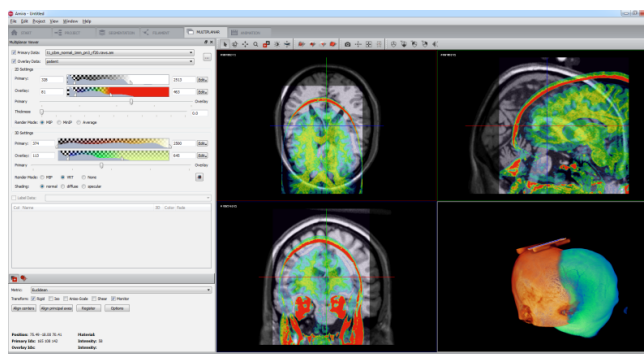

Figure 15.2: Screen shot of the Multiplanar Viewer showing reference and patient data in image fusion.
- Set up the reference image as *Primary Data* and the patient image as *Overlay Data*. In the *2D Settings* panel use the *grayScale* colormap for the primary and *physics.icol* for the secondary data, in the *3D Settings* panel use the *Glow.am* and *volrenGreen.col* colormaps, respectively. For min/max settings and rendering types refer to Fig. 15.2.